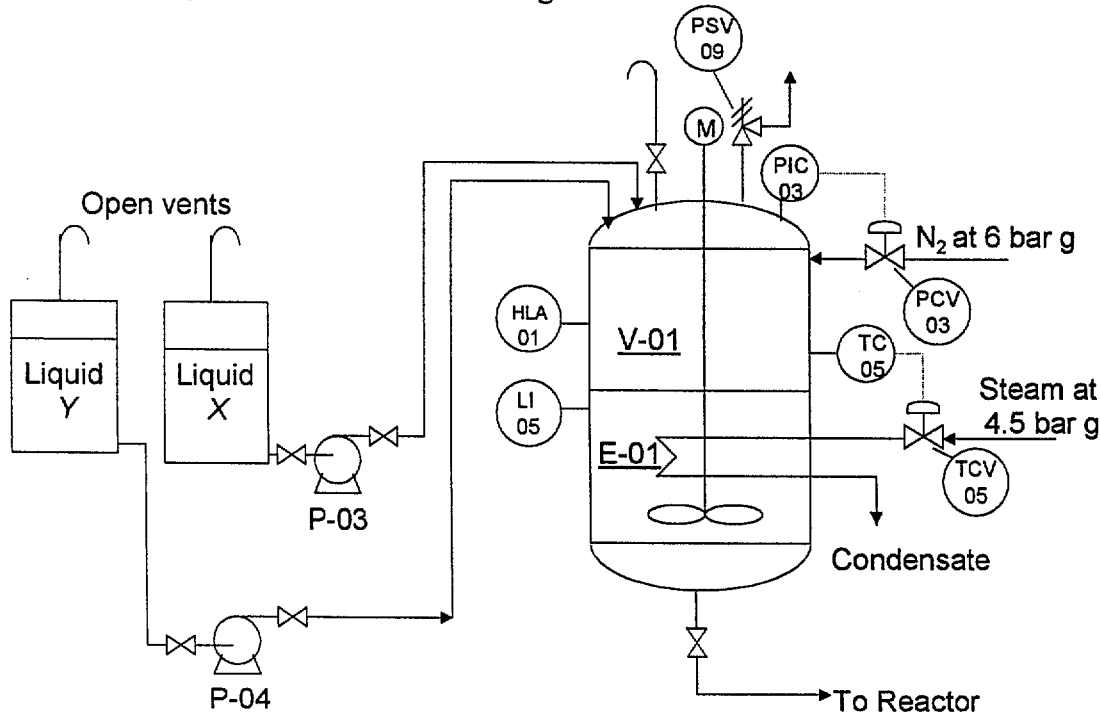

Figure 2. Process flow diagram of batch process preheating vessel, and includes normal operating conditions.
2. Figure 2 shows a flow diagram of a batch process vessel V-01 used for mixing two miscible liquids, X and Y and preheating them to 80°C before transferring them to a reactor. The design pressure of the feed preparation vessel V-01 is 3.5 barg and full vacuum.